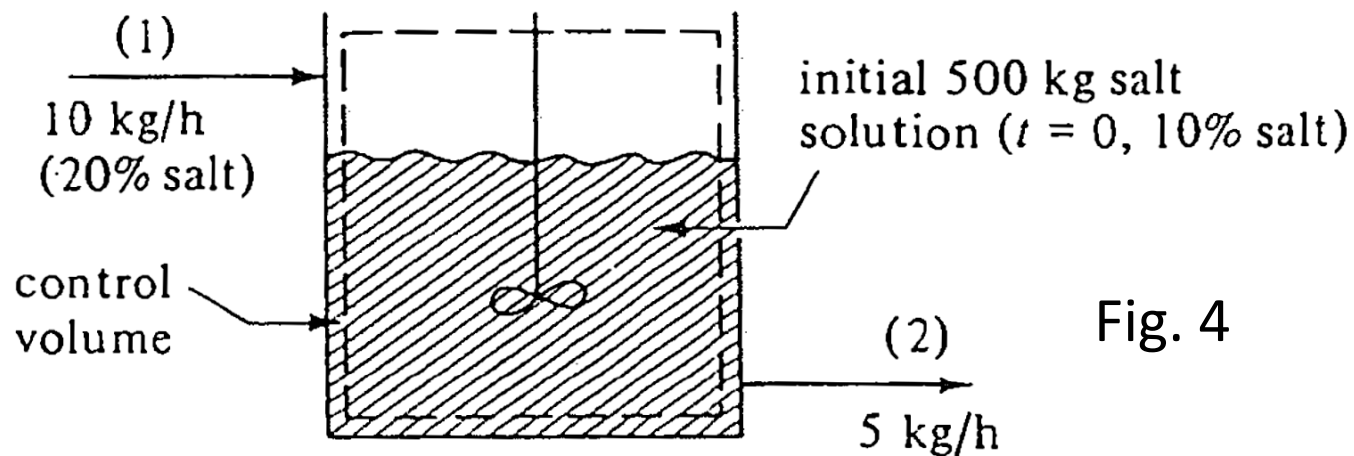

Fig. 4
Consider the following **figure 4** with the following assumptions:
To determine the overall energy balance for the common system shown in **figure 4**, we can consider the following: since the angle between the velocity vector and unit normal vector is $\alpha = 0$ and since the accumulation term is 0 at steady state, **Eq. 9** can be reduced to
Initially, a tank contains 500 kg of salt solution containing 10% salt. At point (1) in the control volume in Fig. 4, a stream enters at a constant flow rate of 10 kg/h containing 20% salt. A stream leaves at point (2) at a constant rate of 5 kg/h. The tank is well stirred. Derive an equation relating the weight fraction w_A of the salt in the tank at any time t in hours.